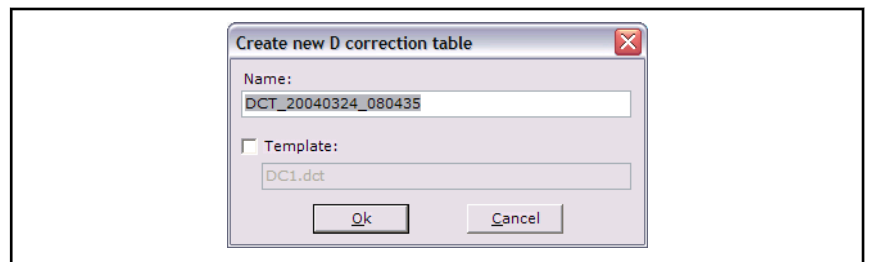

Fig. 6-24: Dialog to create new D-correction table
A dialog (see fig. 6-24 "Dialog to create new D-correction table" on page 159) opens to create a new D-correction table (continue with point 3).
A dialog opens to create creating a new D-correction table (see fig. 6-24 "Dialog to create new D-correction table" on page 159).
1. Open the **New** dialog (see fig. 6-24 "Dialog to create new D-correction table" on page 159) as described above.